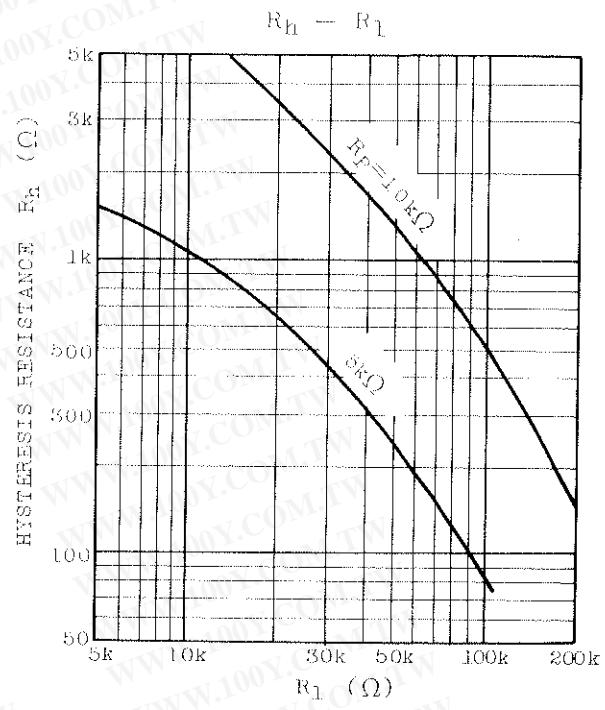

Fig.2 (b)
- The value of R_1 can change hysteresis shown in Fig.2 (b).